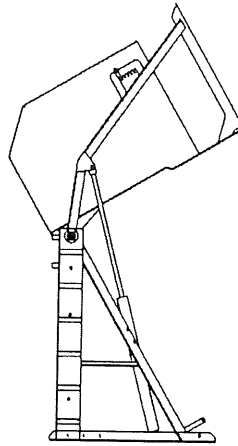

Figure 7
- h) Figure 7 shows a floor dumper. It utilizes hydraulic cylinder to operate and stop at any position. Illustrate a hydraulic circuit diagram to perform this operation. (9 marks)